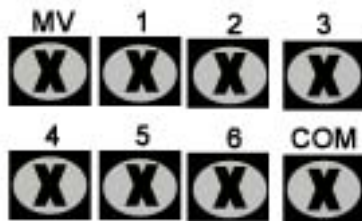

Fig 2
4. Attach the remaining zone wires in the same manner. See *fig. 2*